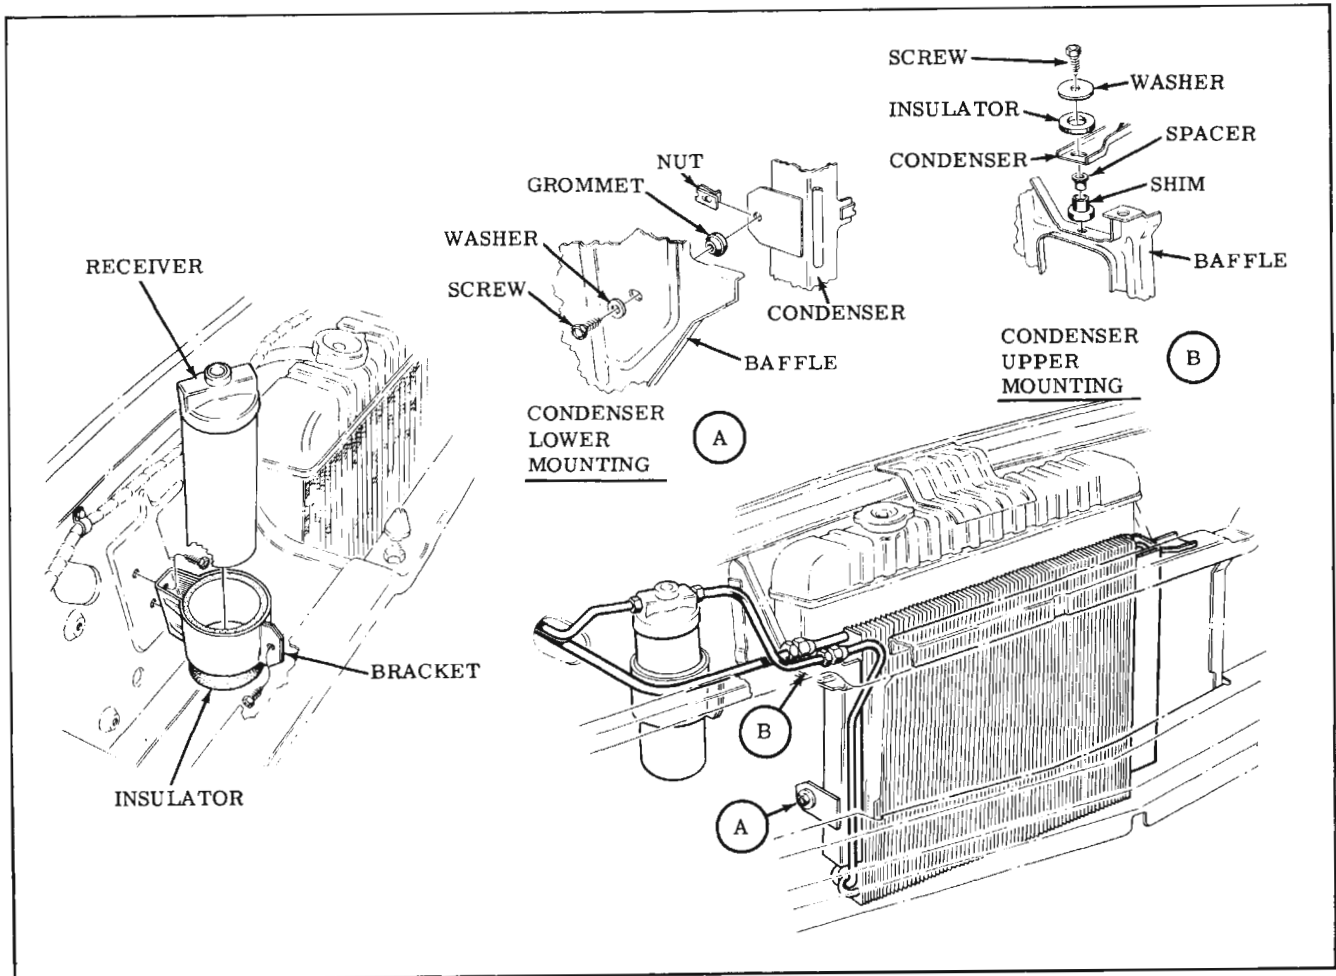

Fig. 15-57 Condenser and Receiver Installation
The condenser and receiver are mounted in front of the radiator. After discharging the system, the condenser or receiver can be removed as illustrated in Fig. 15-57.
2. Install Delcotron and tighten the attaching bolt. (Fig. 15-57)